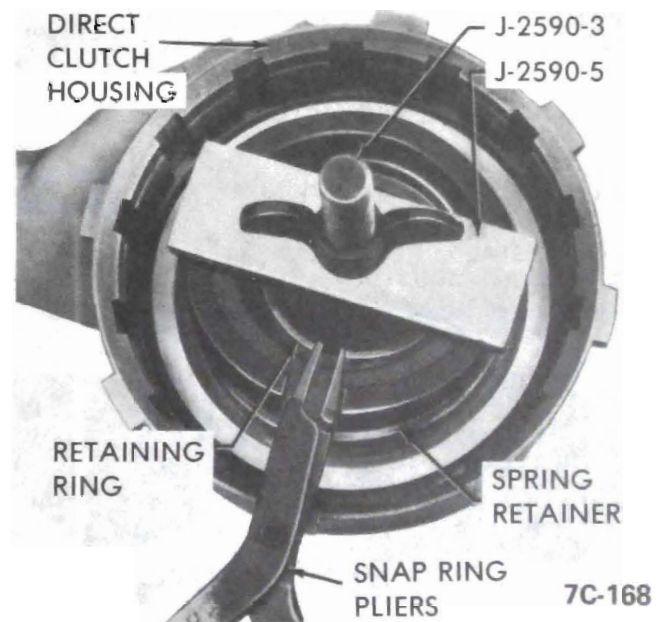

Figure 7C-103
9. Remove spring retainer, springs and piston. See Figure 7C-104.